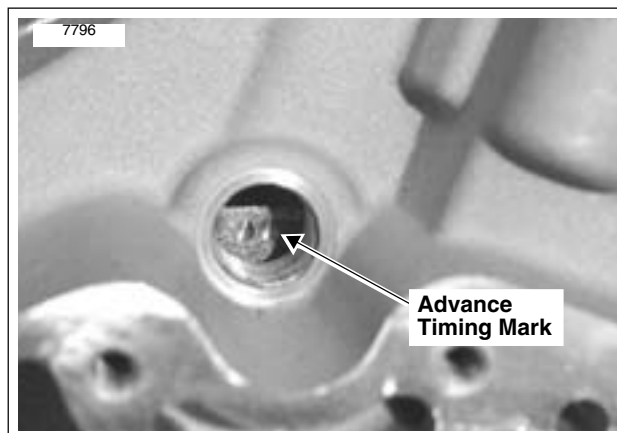

Figure 1-40. Dynamic Ignition Timing
6. See Figure 1-40. Timing light will flash each time an ignition system spark occurs. Aim timing light into timing inspection hole. The advance timing mark (two dots) should be centered in timing inspection hole. If this is the case, ignition timing is properly adjusted. Go to Step 11. If timing mark is not centered or is not visible in the timing inspection hole, see to Steps 7-12.